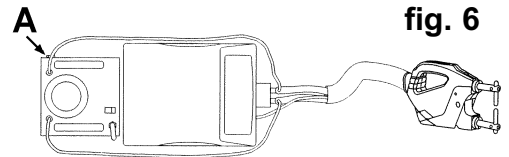

fig. 6
- 8.2.1 Connect the coolant pipes to the water cooler, as shown in fig. 6.
- 8.2.3 Open vent plug (fig. 6.A) and run pump until all air is expelled - close plug.